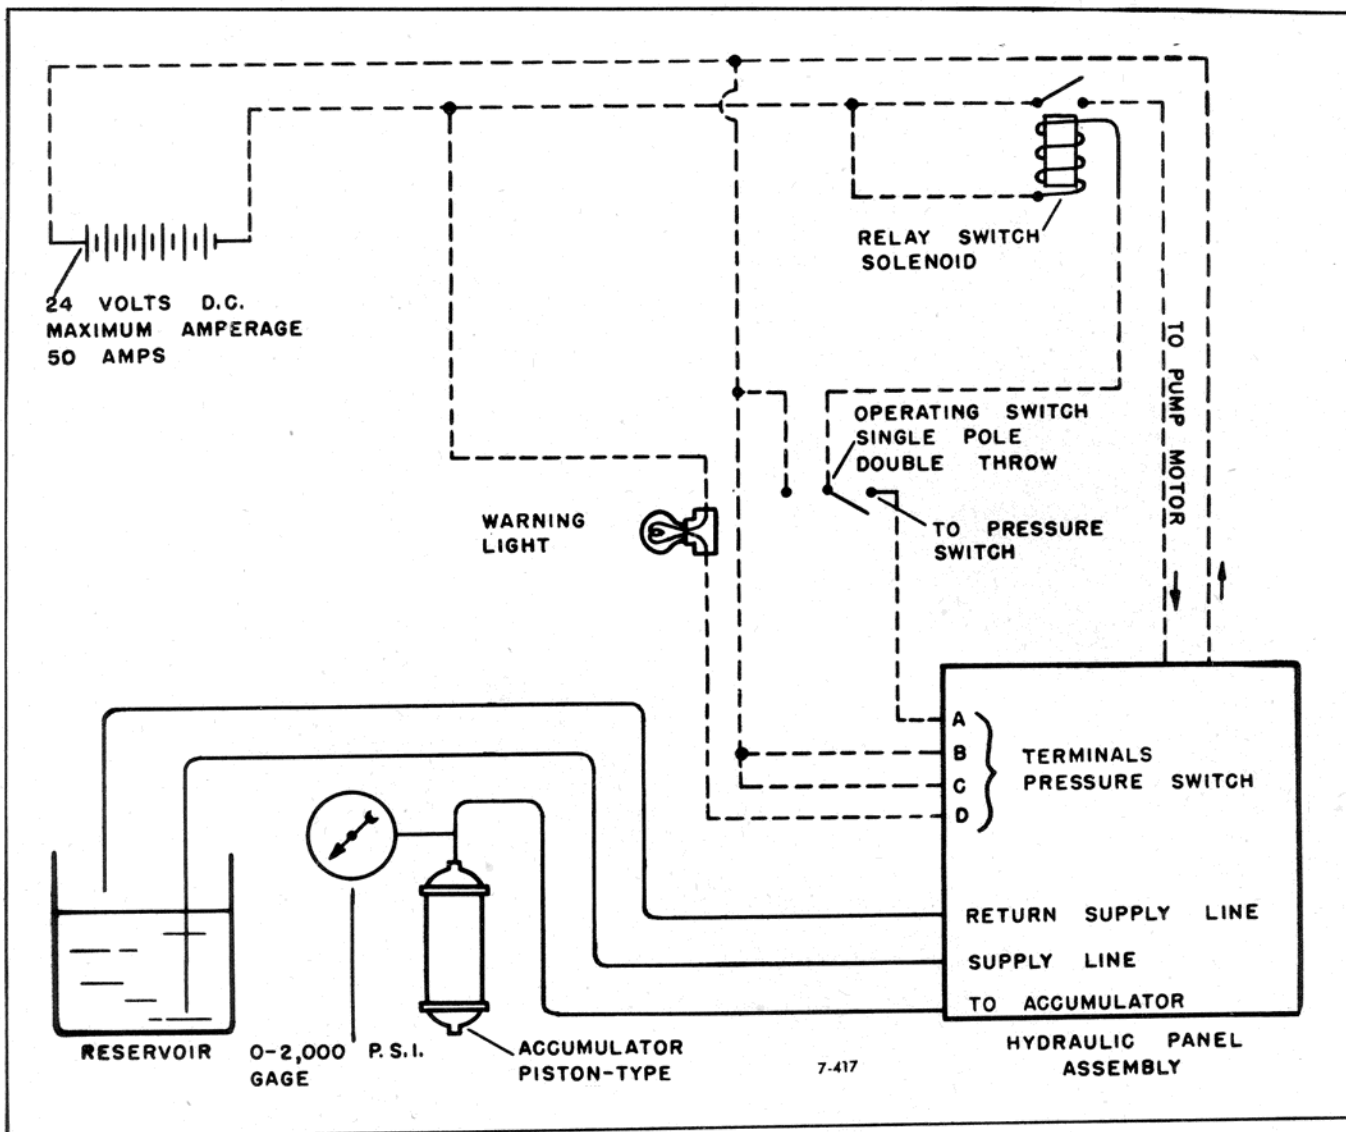

Figure 283—Functional Test—Hydraulic Panel
j. Disconnect all test apparatus and see that all units and fittings are assembled in accordance with figure 283.